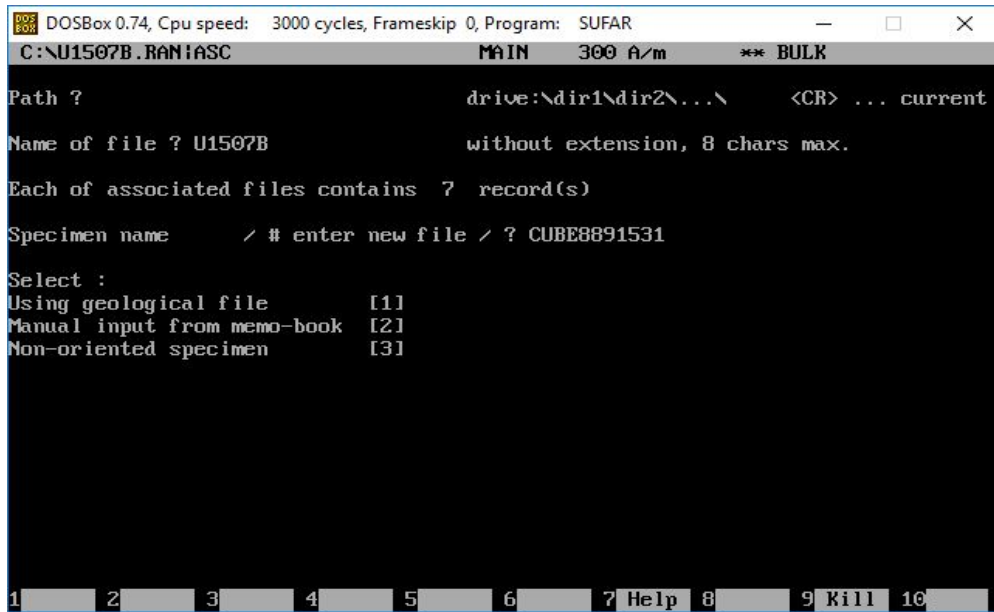

Figure 20. Sufar window displaying options for entering specimen orientation information
12. The Sufar window now displays the options for entering the orientation scheme you wish to use (**Figure 20**). Enter 1,2, or 3 and press return.